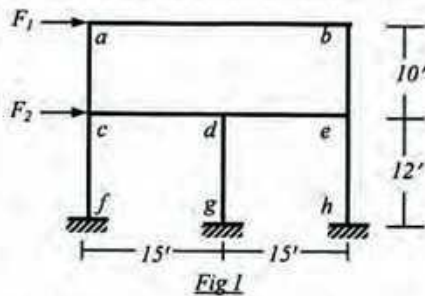

Fig.1
1. For the 2-storied frame loaded as shown in *Fig.1*, (i) Use the Portal Method to determine the value of applied forces F_1 and F_2 if shear in beam ab and cd is -3.33 k and -8.33 k respectively, (ii) Also draw the BMD of the beams and the columns.
2. For the 2-storied frame loaded as shown in *Fig.1*, use Cantilever Method to draw the AFD of the columns when, $F_1 = 12$ k and $F_2 = 20$ k. Assume all column areas are equal.